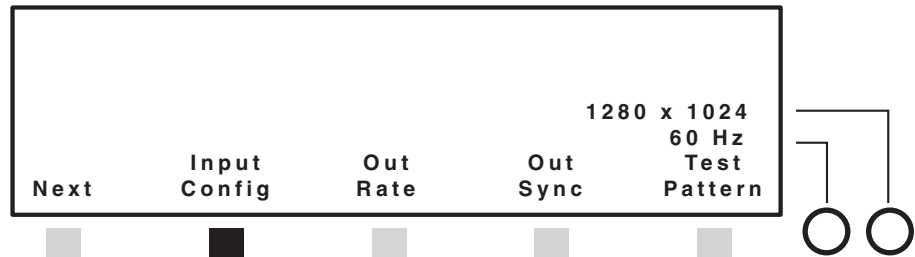

Figure 3-6 — Selecting the input configuration menu
2. Press the Input Config button (figure 3-6).